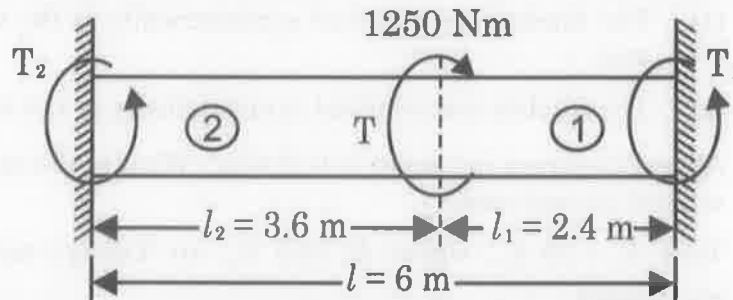

Figure 13(a)
13. (a) A solid steel shaft 6m long is firmly fixed at each end. A torque of 1250 Nm is applied to the shaft at a section 2.4m from one end is shown in figure 13(a). Modulus of rigidity =  $84\text{GN/m}^2$